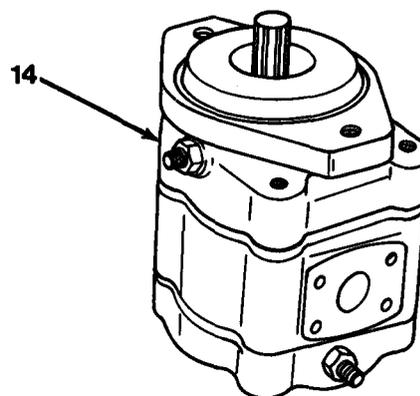

Figure 16-8
9. Remove four capscrews (12) and washers (13).
10. Remove shaft end cover (14, Figure 16-8).